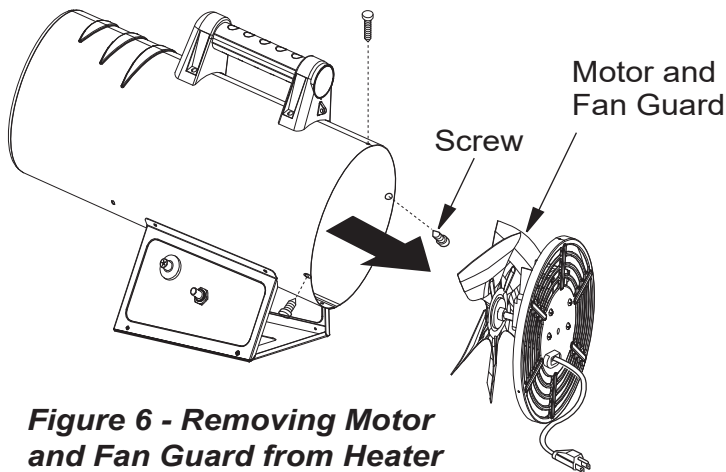

Figure 6 - Removing Motor and Fan Guard from Heater
2. Remove the motor and fan guard from the heater shell (see Figure 6).
2. Remove the motor and fan guard from the heater shell (see Figure 6, page 8).